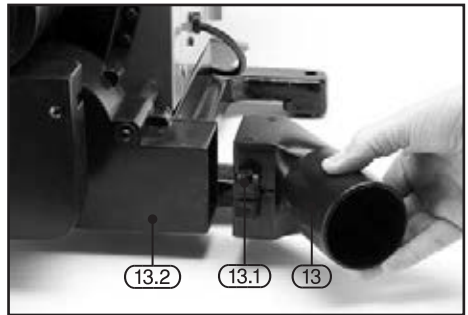

FIG.6
8.4 INSTALLING DUST EXHAUST AND BAG - FIG. 6